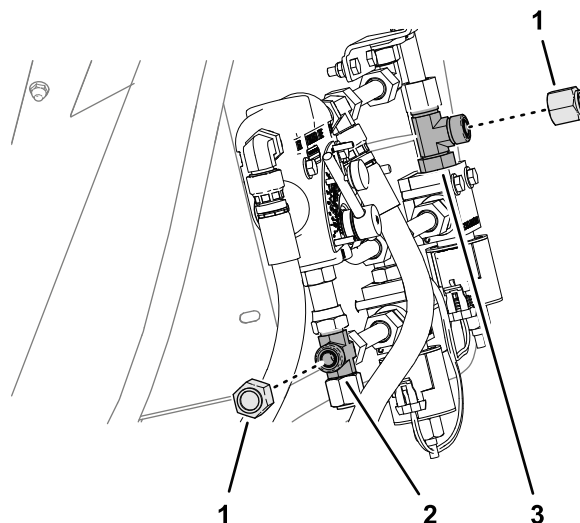

Figure 18
1. At the valve mount, remove the caps from the T-fitting and the cross union fitting as shown in Figure 18.